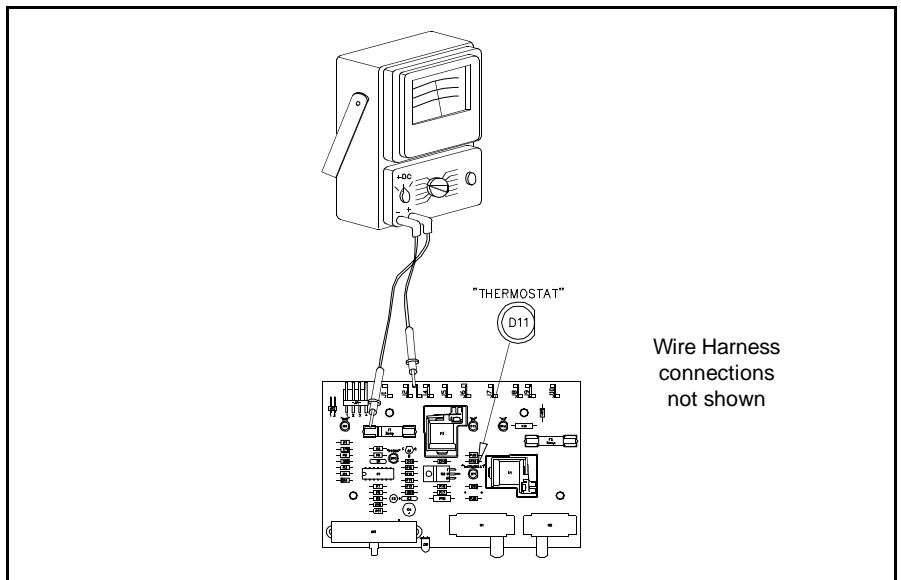

Figure 4.56 3 Amp Fuse Check
7. Check the 3 amp fuse as shown in Figure 4.56. You must read 12 Volts at both ends of the fuse. Use J-4 (-) for the ground probe point. If 12 Volts is not present, replace the fuse.
8. The Thermostat L.E.D. shown in Figure 4.56 should be illuminated. If the Thermostat L.E.D. is not illuminated, replace the PC Board (Review steps 1 and 2 first).